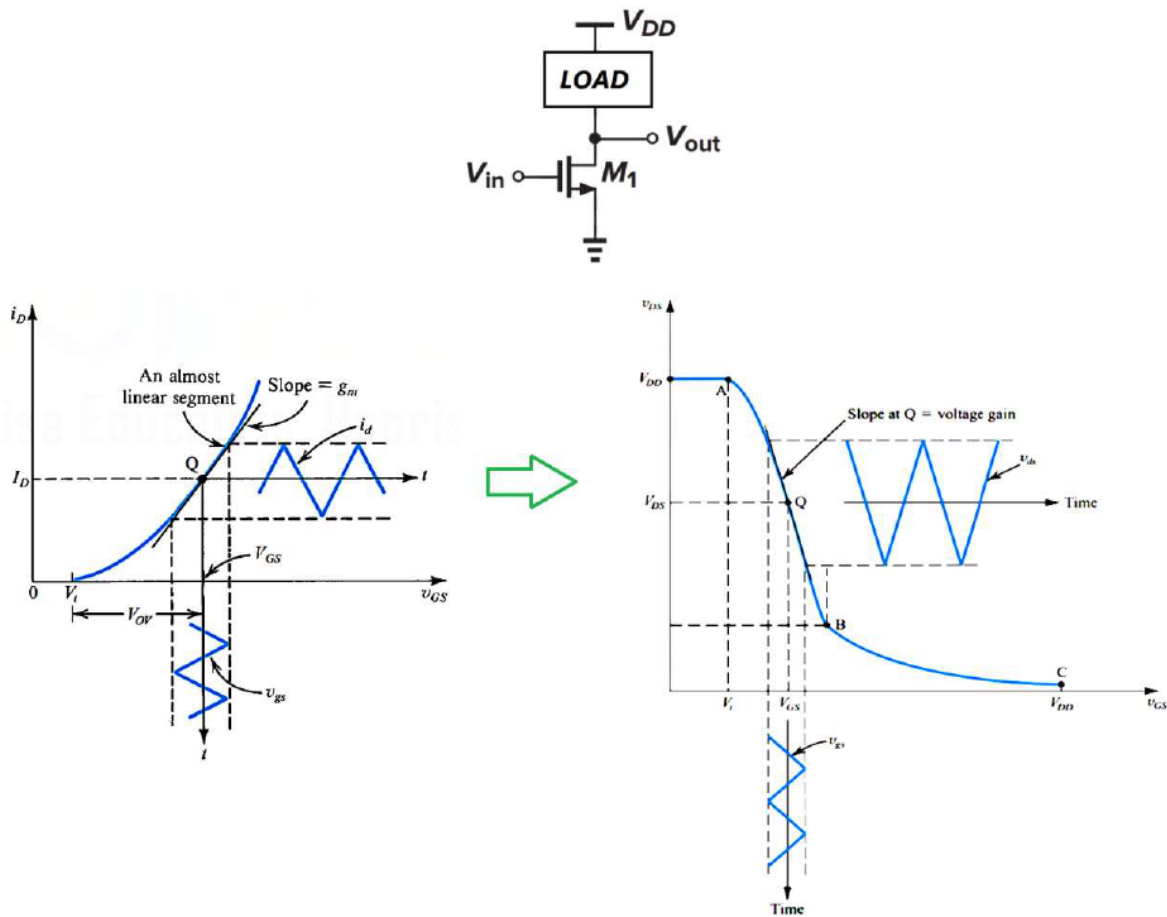

Figure 3. Analyze the IN-OUT response of an amplifier with CS topology
which A, B are the 2 points in **Figure 3**
- Output DC operating point (bias level) at Q in **Figure 3**